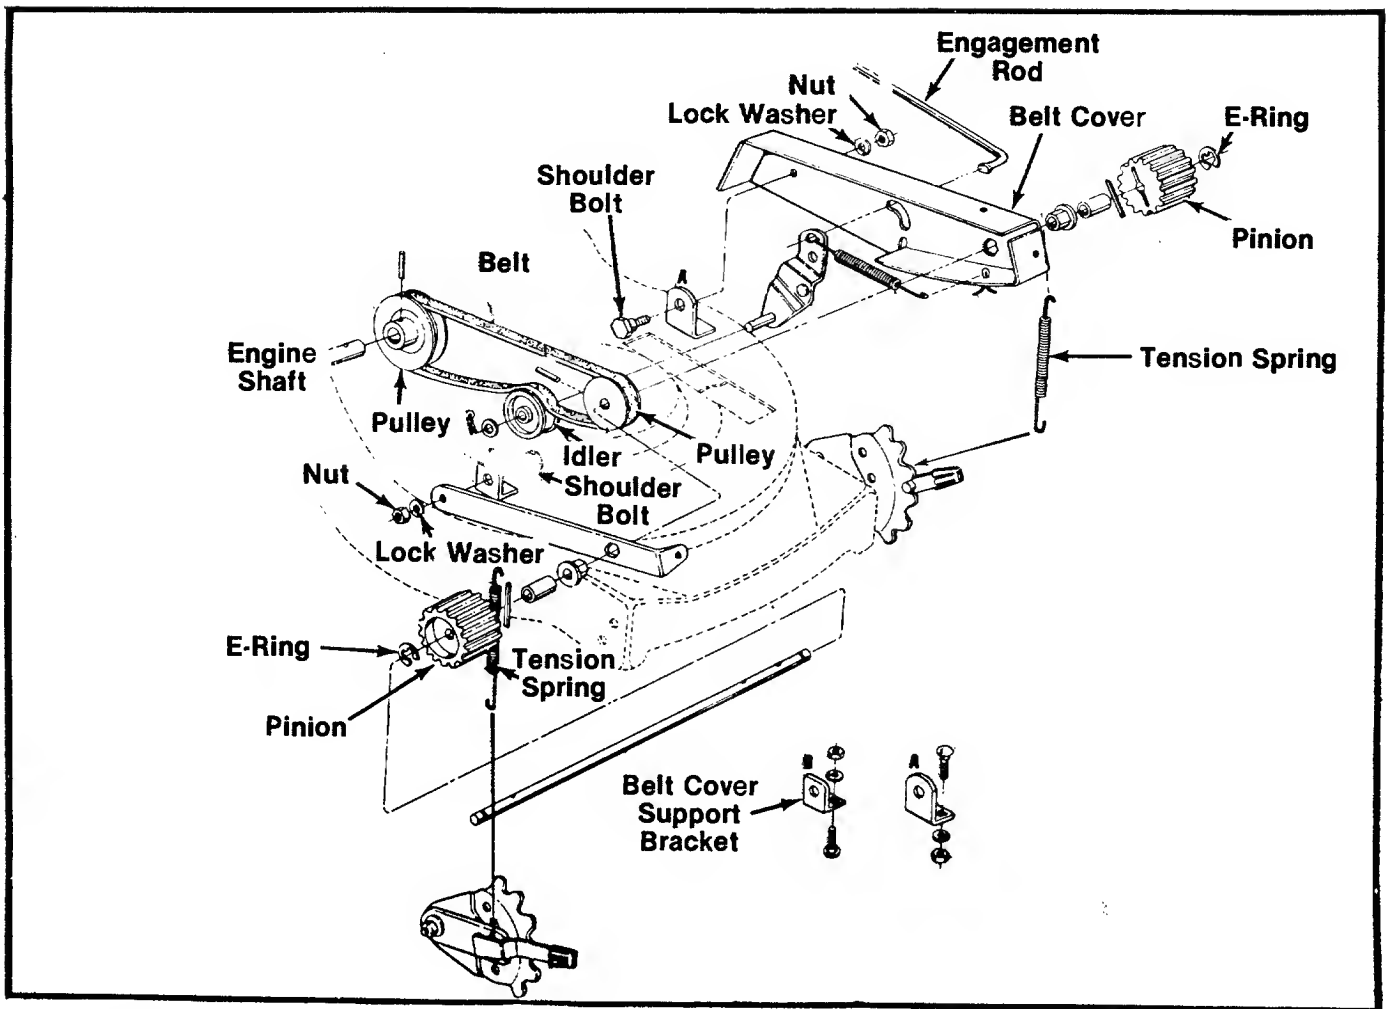

FIGURE 26.
### BELT REPLACEMENT (See figure 26)
2. Remove both tension springs. See figure 26.